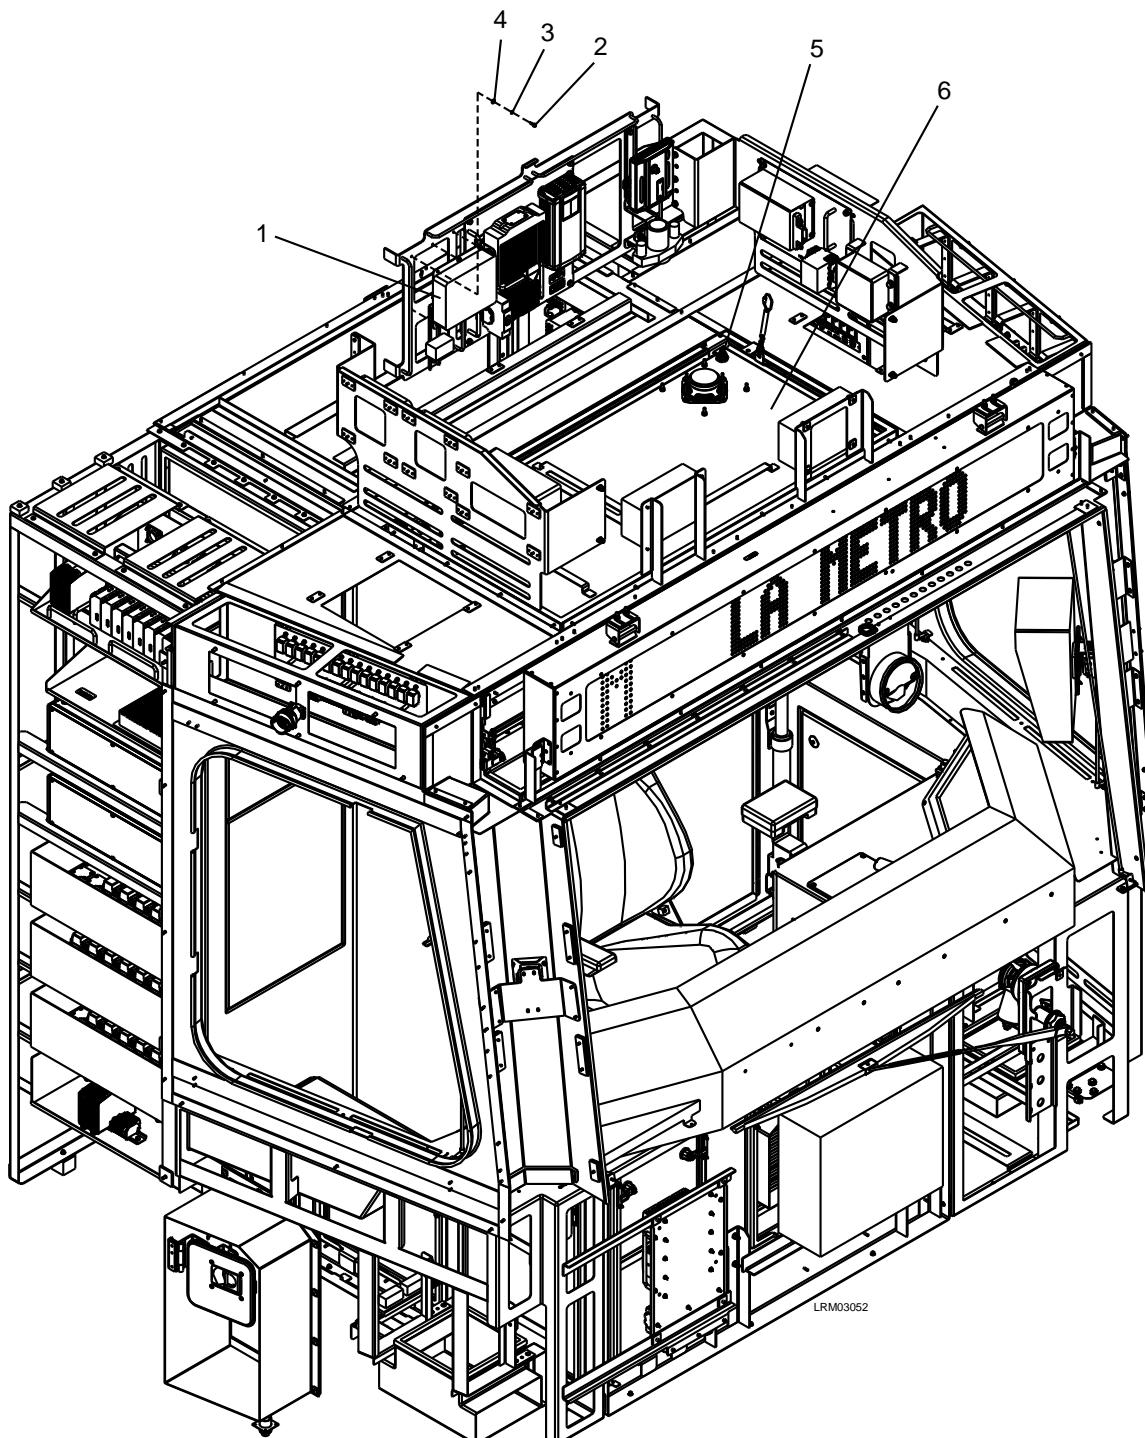

Figure 7-60: Ethernet Switch (Wireless)
1. Unlock the two locks (5) and lower the cab ceiling panel (6) located in the B-Unit to access the Ethernet Switch (Wireless) (1) hardware and disconnect the electrical connectors. See Figure 7-60.
2. Remove the six M4 x 12 screws (2), M4 lock washers (3), and M4 plain washers (4).
3. Carefully remove the Ethernet Switch (Wireless) (1).